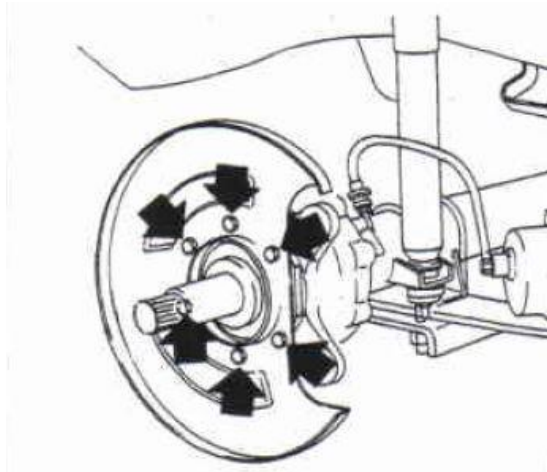

Fig 6
19. Apply a thin layer of oil resistant sealant to the spindle-to-knuckle sealing face and mount the spindle, brake dust shield and dust seal plate to the knuckle (Refer fig 6). Tension the spindle flange bolts to 30-40 Nm.